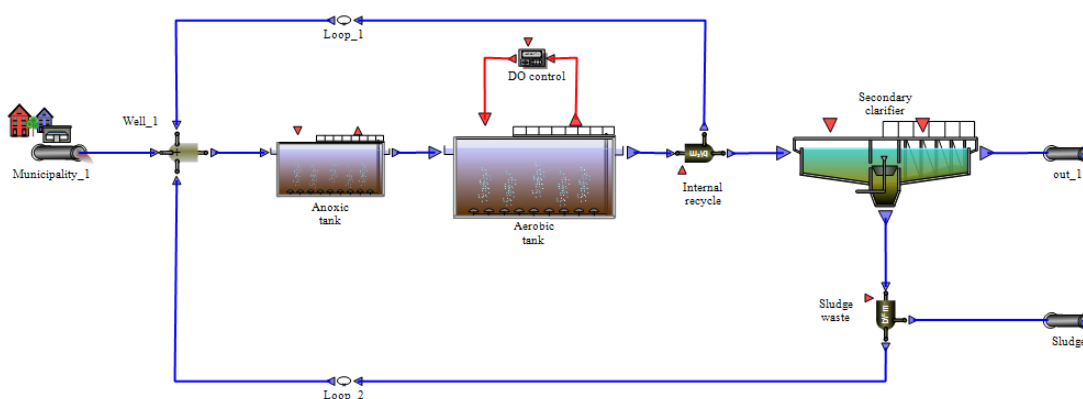

Figure 3.3 The plant layout for the TwoASU sample
6. Drag all the necessary Blocks from the Block Library to the Layout Sheet, i.e. an Input Block of type 'Municipal wastewater', a 3-way Flow Combiner, two Activated Sludge Units, two Pumps (2-way Flow Splitters), a Secondary Clarifier, a Controller of type 'PI controller', two Loop Breakers (optional), one Output Block of type 'Effluent' and one of type 'Waste' (Figure 3.3 and Table 3.1).